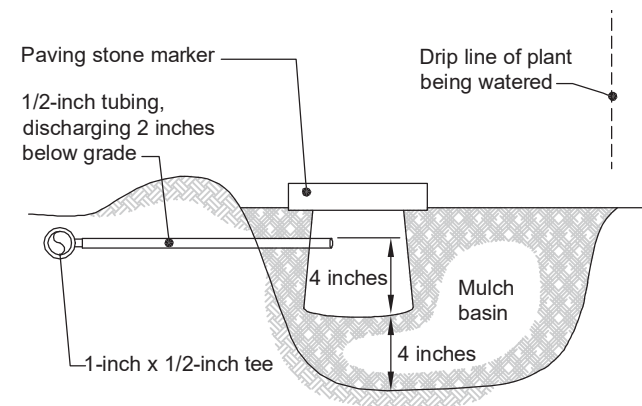

Figure 4. Mulch shield placement.
- Make or buy a “valve box” or “mulch shield” for each graywater outlet (Figure 4). Mulch shields can be made out of sections of 4-inch drain pipe. Cut a 6-inch section from the drain pipe and drill a hole 2 inches below the top for the graywater tube to enter. Cover the open top with a paver or tile. If a more sturdy shield is needed, a valve box can be purchased and altered in a similar way.